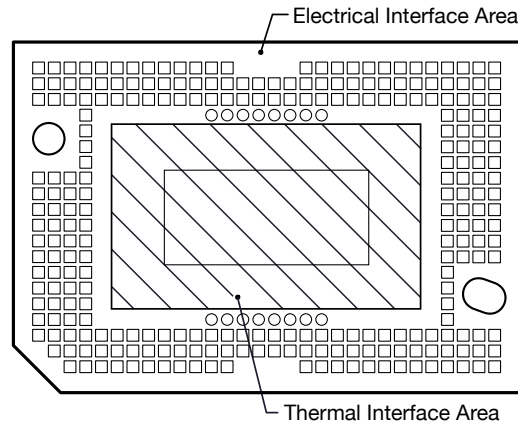

Figure 6-7. System Mounting Interface Loads
(1) Uniformly distributed within area shown in Figure 6-7